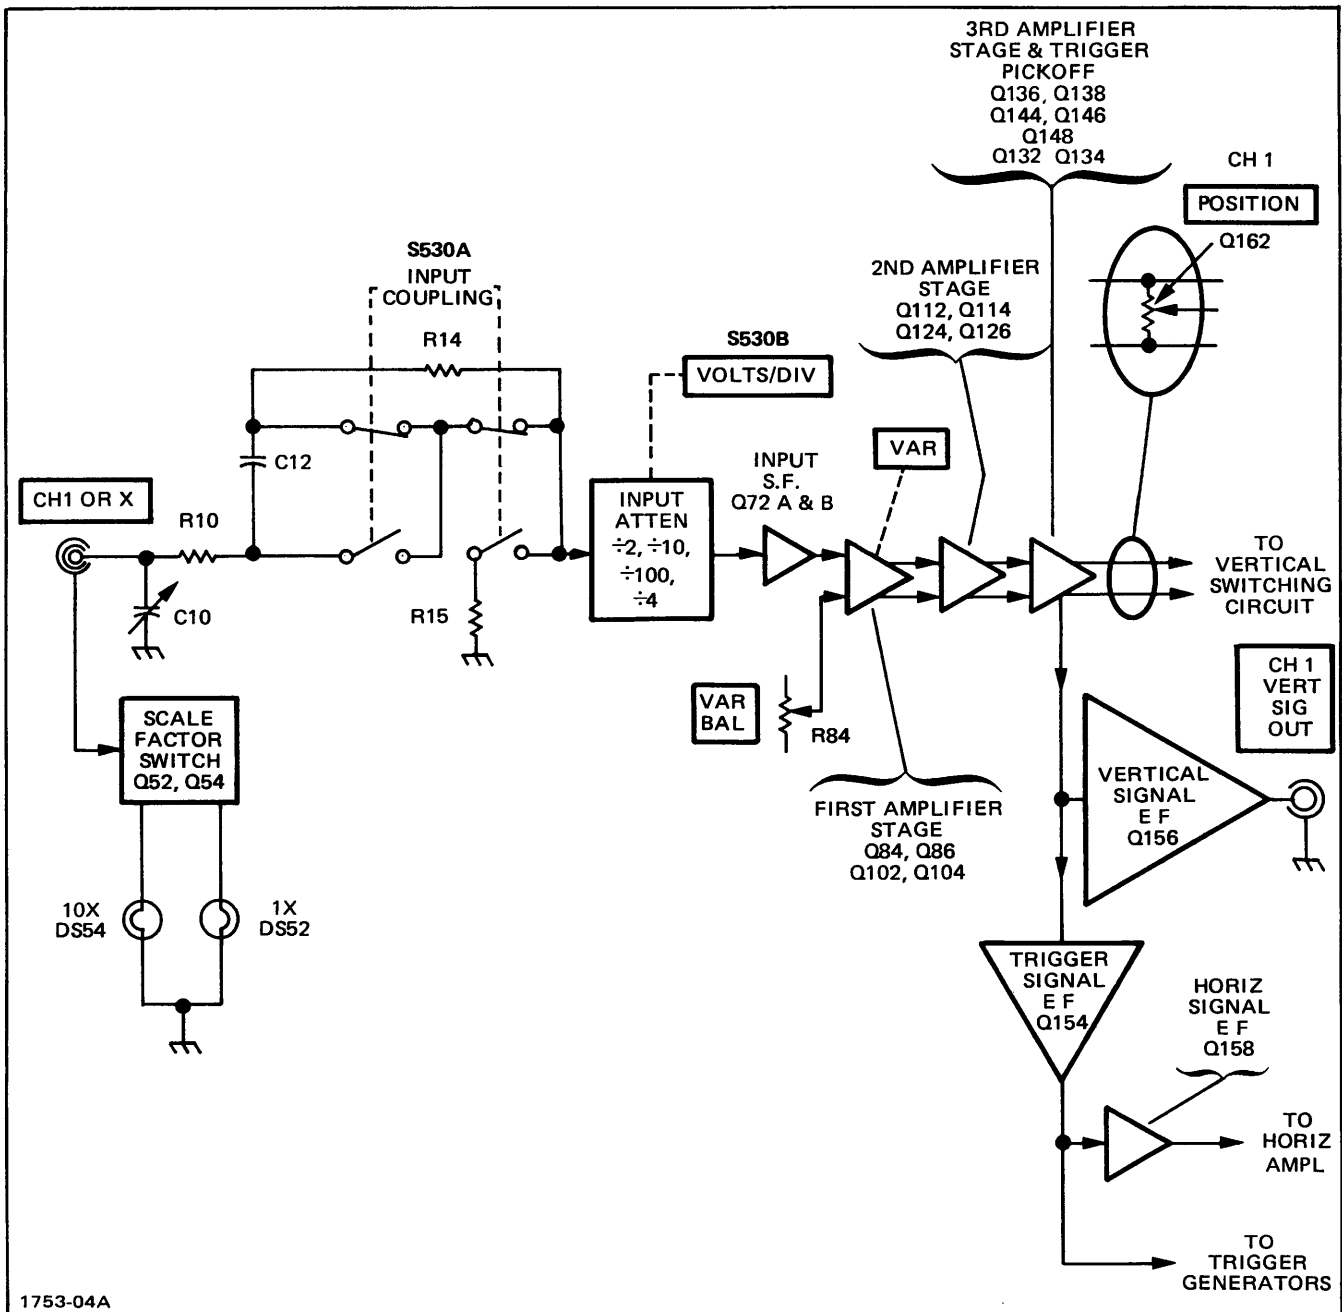

Fig. 3-1. Channel 1 Preamp Detailed Block Diagram.
**General.** input signals for vertical deflection on the crt can be connected to the CH 1 OR X input connector. In the X-Y mode of operation the input signal connected to the CH 1 OR X connector provides the horizontal (X axis) deflection (TIME/DIV switch set to X-Y, VERT MODE switch set to CH 2 OR X-Y). The Channel 1 Preamp circuit provides control of input coupling, vertical deflection factor, gain and dc balance. Fig. 3-1 shows a detailed block diagram of the Channel 1 Preamp circuit. A schematic of this circuit is shown on Diagram 1 at the rear of the manual.